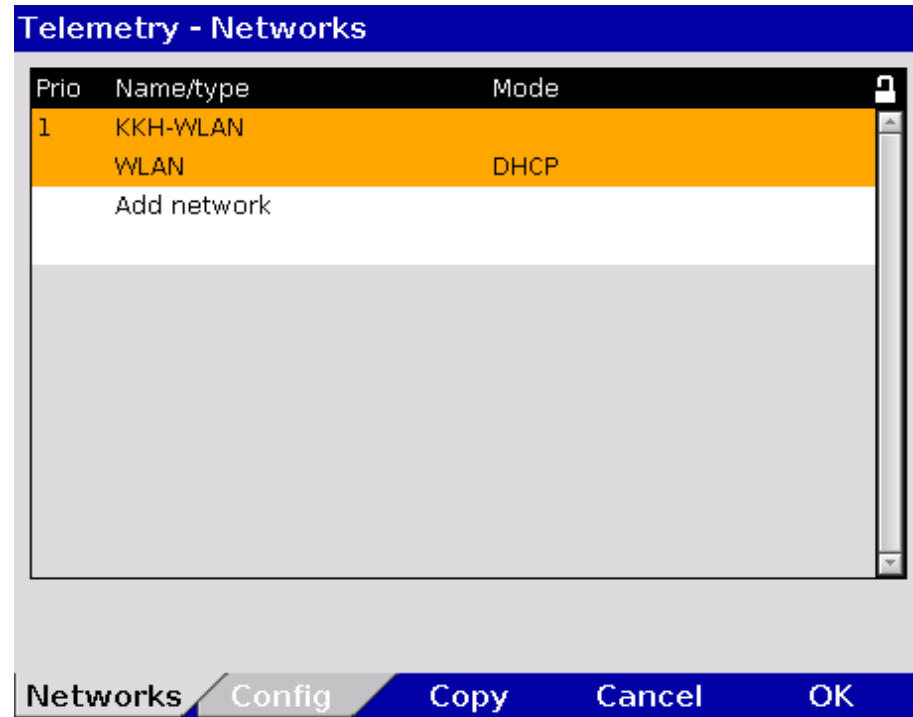

Fig. 9-4 Add network
**Note** Already configured WLAN networks can be copied with the softkey [Copy] (see Fig. 9-4) and then adapted to save time with the configuration.